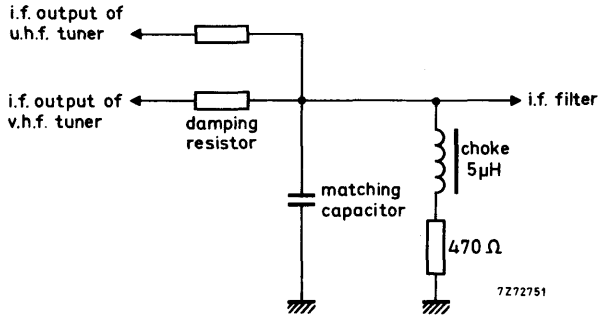

Fig. 12
The tuner needs a d. c. path from the i. f. output terminal (T) to earth, preferably via a choke of approx.  $5 \mu\text{H}$  outside the tuner (Fig. 12). In the case where the tuner is used in combination with a u. h. f. tuner, this choke can be common for both tuners; a resistor in series with the choke can make ineffective the i. f. output circuit of the switched off tuner. For damping the i. f. output circuit and matching the i. f. output impedance of the tuner to the i. f. amplifier, a series resistor and a parallel capacitor as shown in Fig. 12 should be used.